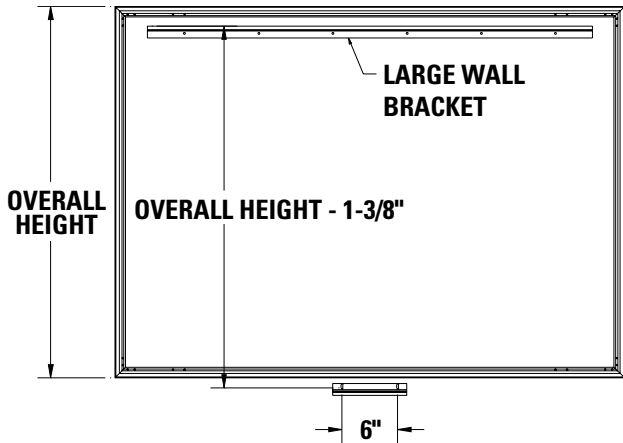

FIGURE 3
2. To install the small wall bracket, you must measure the overall height of the screen frame and subtract 1-3/8". Using that dimension, measure down from the top edge of the wall bracket and mark the wall for two screw holes. The holes should be centered within the frame and 6" apart. Refer to Figure 3.